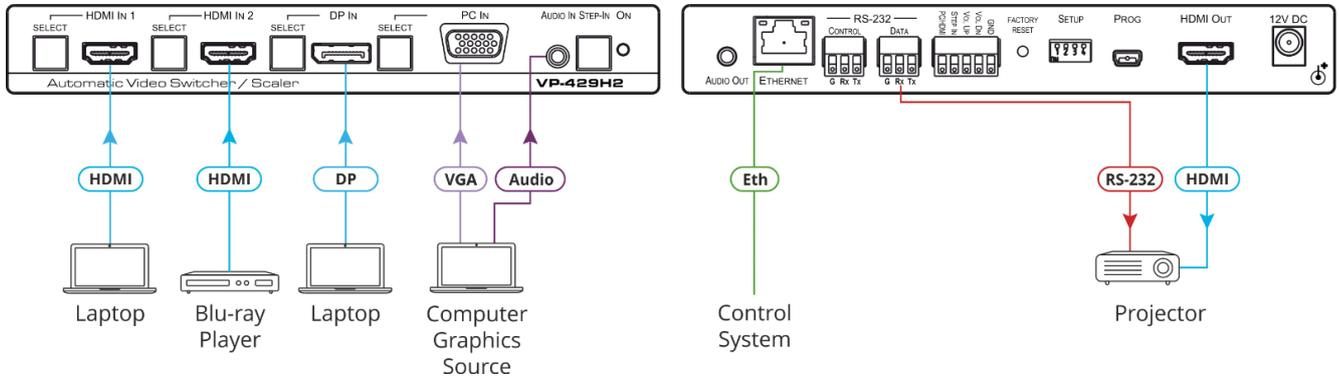

Figure 3: Connecting to the VP-429H2 Rear Panel
To connect the VP-429H2 as illustrated in the example in Figure 3:
1. Connect an HDMI source (for example, a Laptop) to the HDMI IN 1 connector (2) on the front panel.
2. Connect an HDMI source (for example, a Blu-ray player) to the HDMI IN 2 connector (4) on the front panel.
3. Connect a DisplayPort source (for example, a laptop) to the DP IN connector (6) on the front panel.
4. Connect a computer graphics source (for example, a PC) to the PC IN connector (8) on the front panel.
5. Connect the audio of the computer graphics source to the AUDIO IN 3.5mm mini jack (9) on the front panel.
6. Connect the AUDIO OUT 3.5mm mini jack (12) to an unbalanced stereo audio acceptor (not shown in Figure 3).
7. Connect the HDMI OUT connector (21) to an acceptor (for example, a projector).
8. Connect the DATA RS-232 3-pin terminal block connector (15) to the acceptor (the projector in this example).
9. Connect a control system to the ETHERNET RJ-45 port (13).
10. Connect the CONTROL RS-232 3-pin terminal block connector (15) to a PC or controller to control the VP-429H2 (not shown in Figure 3).
11. Connect the power adapter to the VP-429H2 power connector (22) and to the mains electricity (not shown in Figure 3).